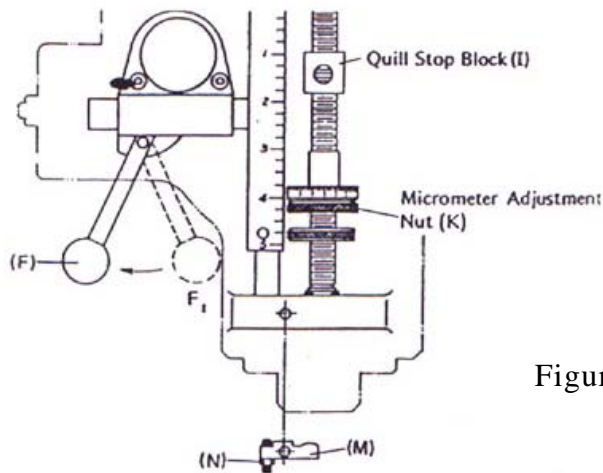

Figure 6-3
- f. As shown in (figure 6-3), the working depth may be set by micrometer adjustments nuts (K) (each graduation is 0.001" or 0.02 mm). When the quill stop block (I) contacts the micrometer nut (K), the feed control lever (F) may simply jump from (F2) back to (F1) position owing to the connecting motion between the feed trip lever and feed trip plunger. This will disengage the overload clutch and stop the spindle feed.